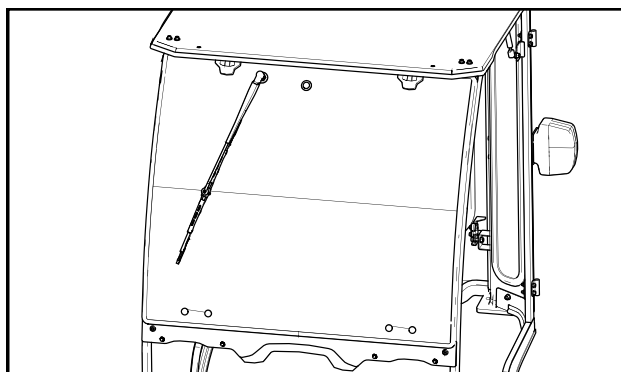

Fig. 15.9 (Wiper Arm Orientation)
- 15.9 Install the wiper arm with the arm fully extended and pointed toward the lower right corner of the windshield. See Fig. 15.9.